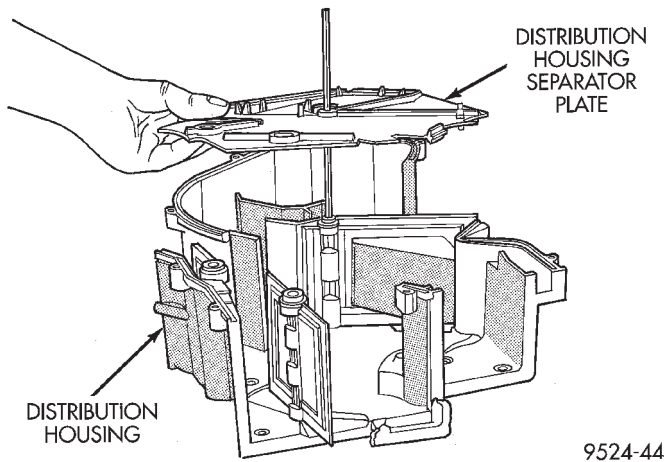

Fig. 77 Separator Plate
(24) Remove separator plate from distribution housing (Fig. 77).